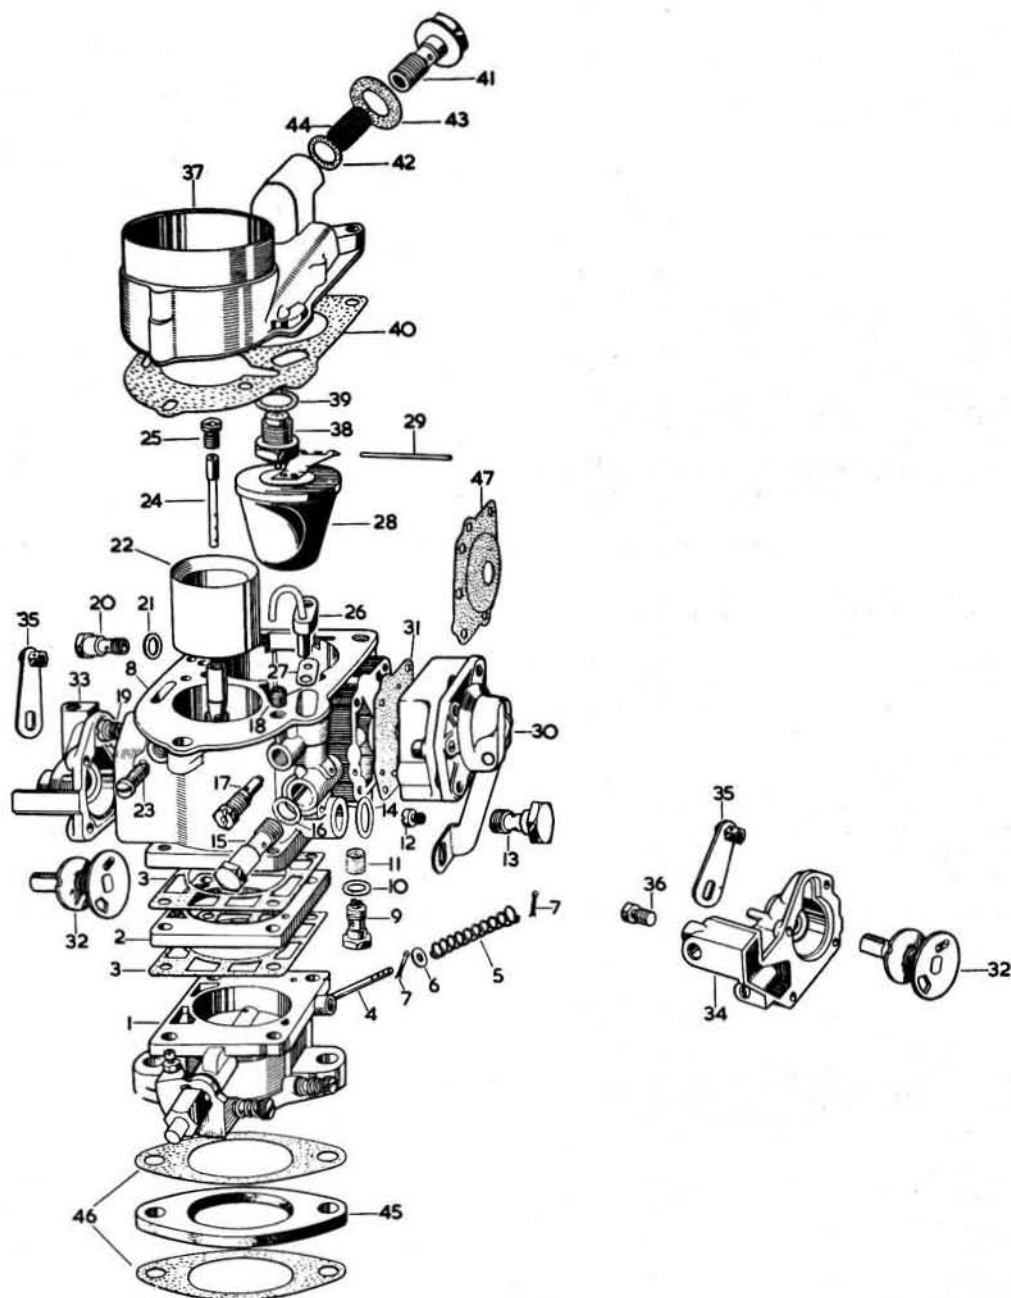
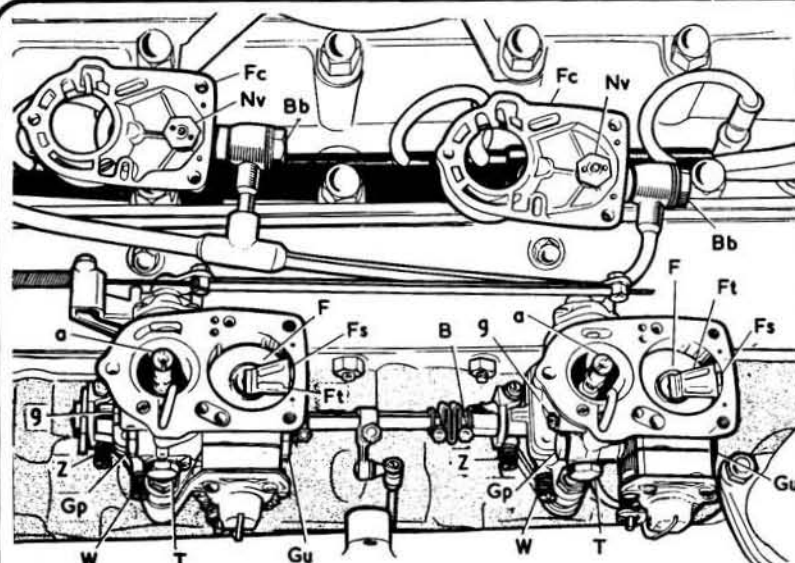
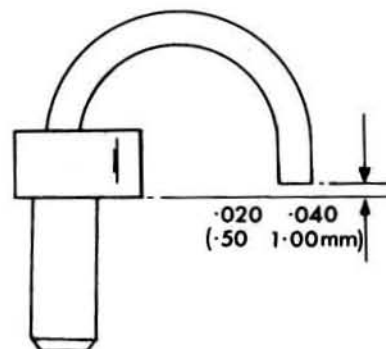

FIG.3.9. EXPLODED VIEW OF THE SOLEX CARBURETTOR
FIG.3.11. VIEW OF CARBURETTORS INSTALLED WITH FLOAT CHAMBER COVERS REMOVED
Fig.3.12. Checking the position of the injector tube
- 1 Refer to Fig.3.11. The carburettors can be dismantled to the extent necessary for routine cleaning of jets and the float chamber without removing them from the engine. Proceed as follows.
- 3 Disconnect the fuel feed pipes to the carburettors by unscrewing the banjo bolts (Bb Fig.3.11) collect the washers and filter gauzes.
- 6 Lift and remove the float toggles (Ft), the spindles (Fs) and the floats (F).
- 7 Remove the pilot jet (g), the pump jet (Gp) and the starter jet which is situated at the bottom left hand side of the starter box and illustrated as item 20 in Fig.3.9.
- 8 Remove the pump non-return valve and gauze located at the base of the pump chamber (item 9 in Fig.3.9).
- 9 Remove the plug (Gu) and the main jet located in the bolt (T).
- 12 It is rarely necessary that further dismantling of the carburettor is required but if it is desired to completely break down the item into component parts (but see Section 13 paragraph 7) for thorough cleaning after a long period of neglect it will have to be removed from the car and, after completing the operations at paragraphs 4 - 11 above, refer to Fig.3.9 and remove the remaining items in any sequence but take careful note of the position of parts as incorrect assembly will result in complete failure of the carburettor.
- 3 Each carburettor has two external adjustments, the slow running adjustment screw (Z) Fig.3.11 and the mixture volume control screw (W).
- 4 Switch off the engine when running temperature is obtained and loosen the clamping bolt (B) Fig.3.11 on the flexible link between the carburettors. Ensure that the mixture control lever in the car is at "RUN", disconnect the mixture control levers at the carburettors and make sure that they are fully forward. Now starting with the front adjust each carburettor separately.
- 5 Unscrew the screw (Z) and ensure that the throttle is closed by pressing on the slow running screw. Place a piece of thin paper (or a 0.002" feeler gauge) between the screw and the casting stop and screw down until the paper is lightly nipped. Remove the paper and screw in on (Z) one further complete turn from that point.
- 6 Gently screw the volume control screw (W) clockwise until light contact is made with the casting seat, then unscrew three quarters of a turn.
- 8 Start the engine and have an assistant to watch the revolution counter. Adjust each slow running screw (Z) equally until the engine is running at 650 rpm. Now screw out each volume control screw (W) a quarter of a turn at a time working alternately between carburettors until a drop in rpm is registered.
- 10 If the engine speed is now other than 650 rpm adjust the slow running adjustment screws (Z) alternately each a part turn at a time to obtain the required idling speed and to maintain synchronisation.
If checks show that choke levers, ignition timing, carburettor tuning etc., are correct it is advised that the accelerator pump discharge injector tube (item 26 Fig.3.9) be checked for correct positioning. Check its position by placing a straight-edge across the lower face of the mounting block and measuring the gap between the end of the tube and the straight-edge as shown in Fig.3.12. The correct gap should be 0.020" to 0.040" (0.50 to 1.00 mm). If this dimension is not correct, a replacement assembly should be fitted as bending of the injector tube may loosen the tube in the mounting block. Ensure that the gasket is refitted under the base of the assembly and that the locating screw is tight.
If the engine idles satisfactorily but suddenly fails to respond to throttle opening, the fault will probably lie in the main jets, these should be removed for cleaning. The main jets are assembled in holders the heads of which are clearly marked "Main Jet Holder" (refer to item "T" in Fig.3.11). Remove the jet holder and gripping the head between the jaws of a spanner the jet can be removed with a screwdriver and blown out. Removal of the jet holder will allow the float chamber to drain and this will assist in carrying away any impurities.